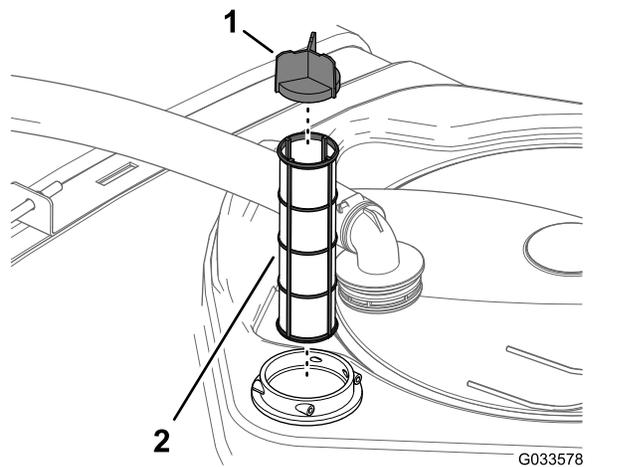

Figure 30
- Pull the suction strainer out of the filter housing in the tank (Figure 30).